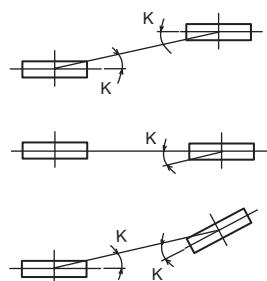

Figure1 Parallel degree of pulley
1. Set the parallel angle of the fan and the motor pulley as shown in the table and figure 1 below.
2. Set the tension of the per one belt when the flexion load is within the range as shown in the figure 1 below at the proper flexion. ($A=4.5\text{mm}$)